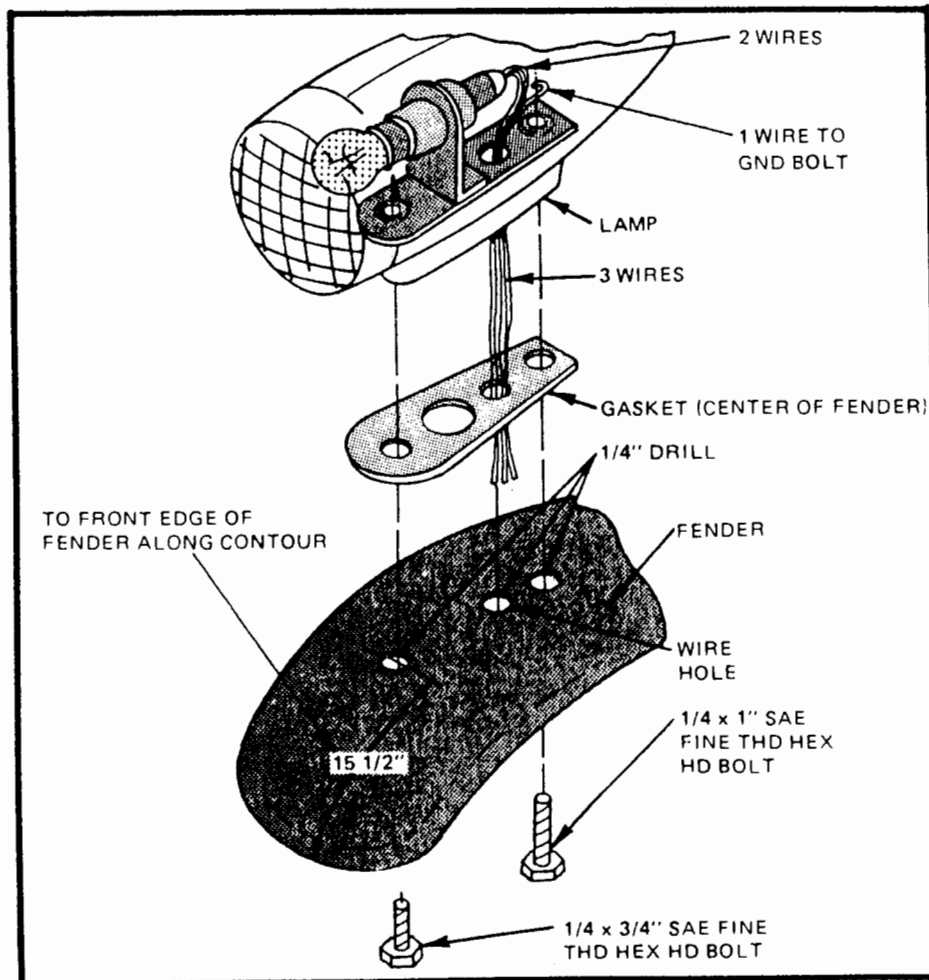

Figure 6
- Using the rubber gasket as a guide, locate the holes for the parking light on the top of the front fender. Move the gasket back and forth until the extreme top of the fender is found. (Figure 6) Drill as indicated for two mounting screws and wires, (1/4"). Attach leads to lights at this time to facilitate hook up later. Secure with 1/4 x 3/4" and 1/4 x 1" bolts, SAE fine thread (short bolt in front of light, long in rear).